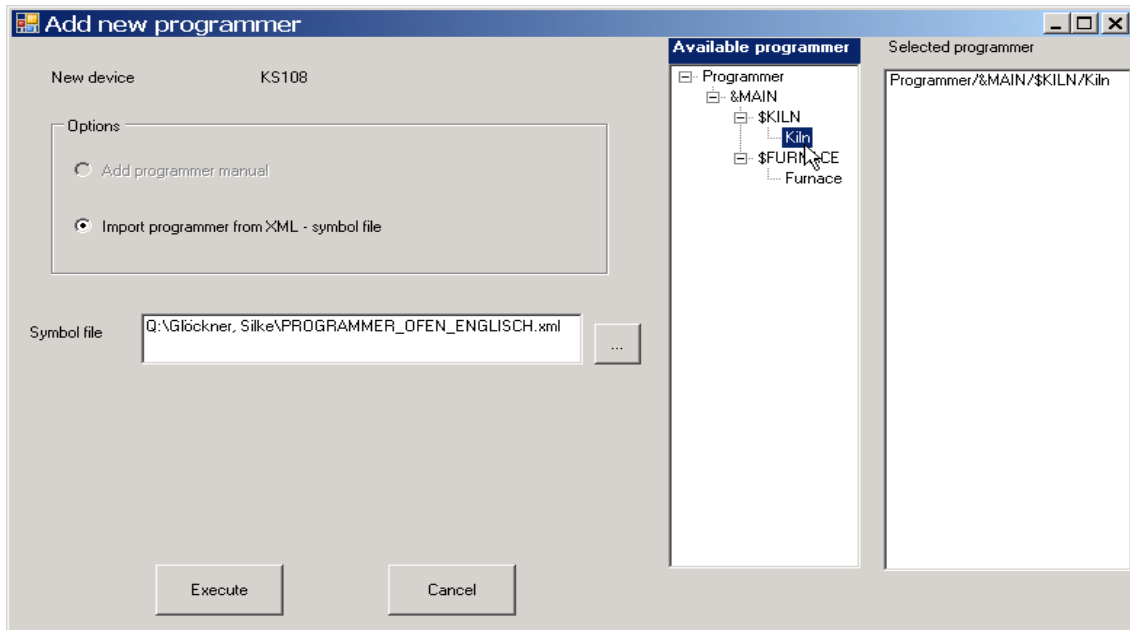

Fig. 20: Dialog window with settings
Activate and hold the required application using the left mouse key and draw it onto the spreadsheet on the right. A dialog window (Fig. 20: Dialog window with settings) with further settings opens.
After inserting (Fig. 20: Dialog window with settings), a window with further settings relating to the programmer opens:
- settings for the recipes, such as number and name or tracks, etc. (see Fig. 20: Dialog window with settings)